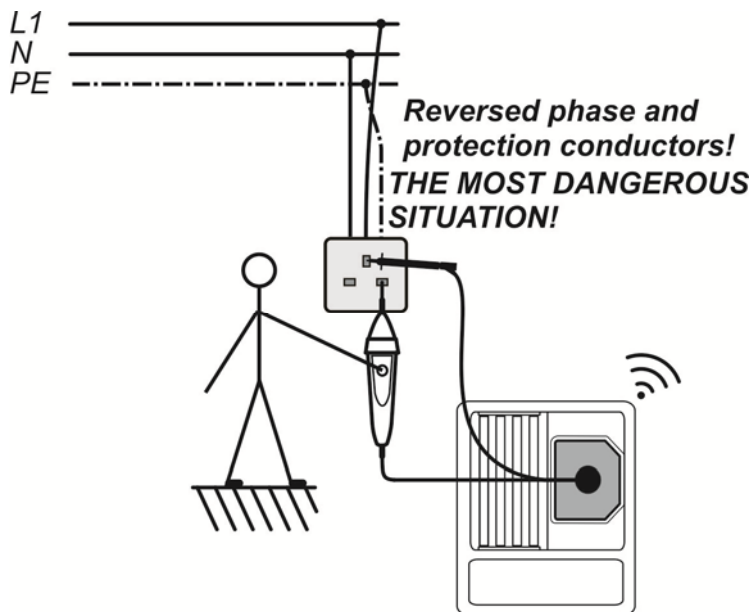
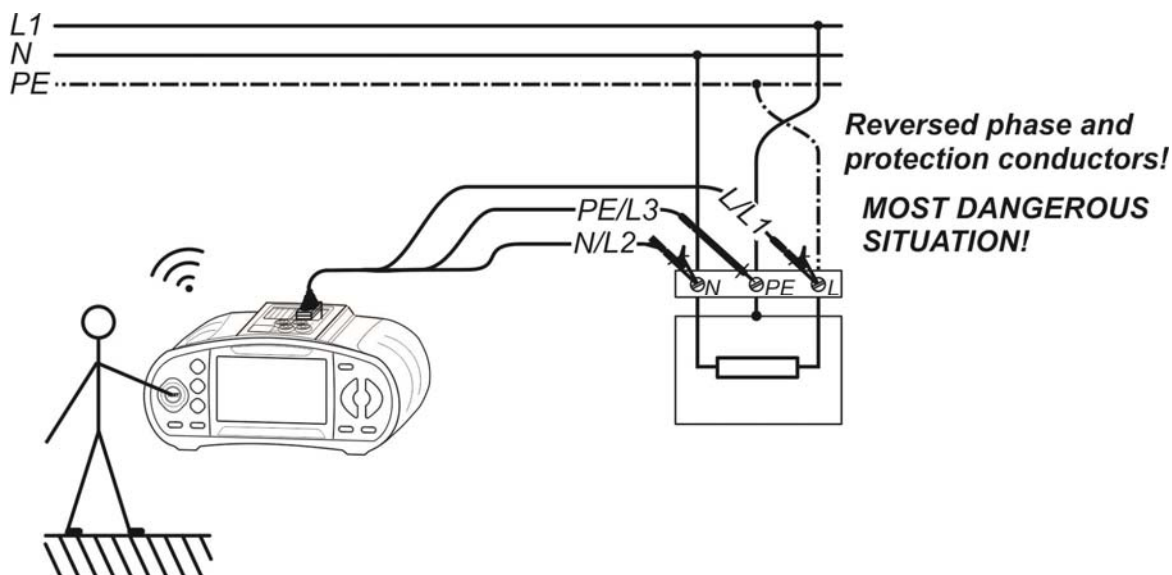

Figure 5.45: Reversed L and PE conductors (tip commander)
Figure 5.46: Reversed L and PE conductors (application of 3-wire test lead)
- ❑ **Connect** test leads to the item to be tested (see *Figure 5.45* and *Figure 5.46*)